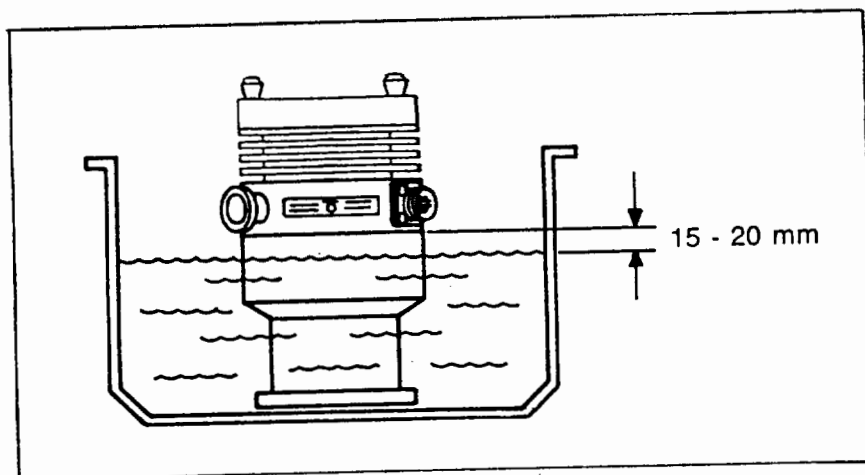

Fig. 4.2 - Assembly Pump Cleaning
- 2) Make sure that the cables and water cooling pipes are disconnected from the pump, then undo the high vacuum flange and empty any water left in the cooling jacket. Turn the pump upside down (see Fig. 4.2) and dip it into the solvent up but not beyond 15-20 mm (1/2" - 3/4") from the end of the stainless steel envelope.